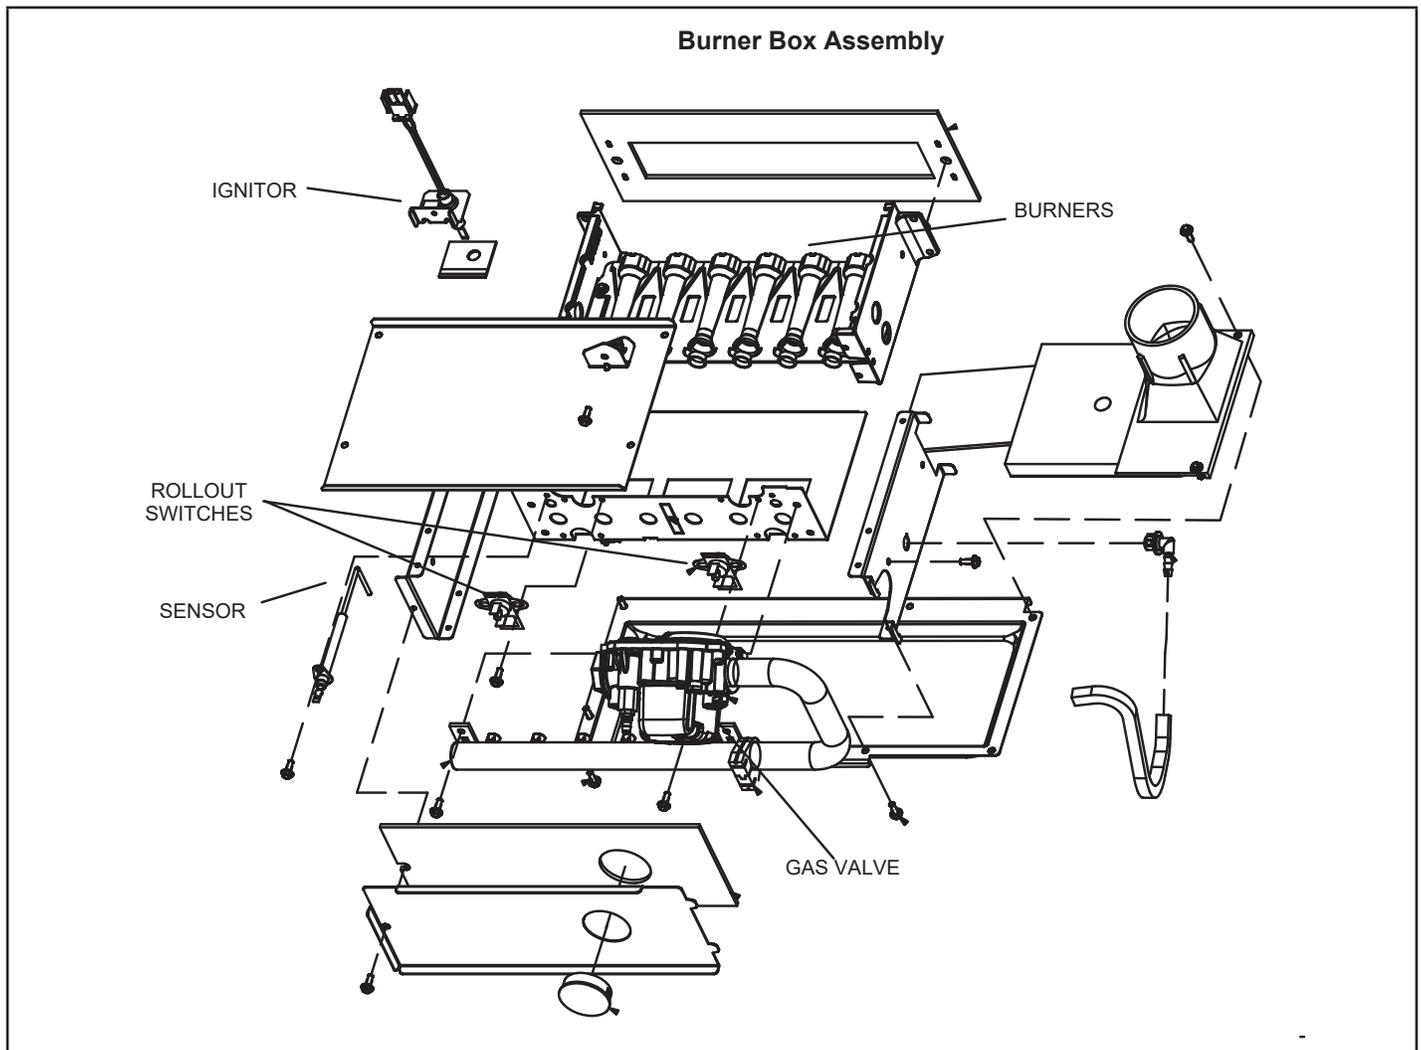

FIGURE 7
1. Flame Rollout Switches (FIGURE 7)
6. Ignitor (FIGURE 7)